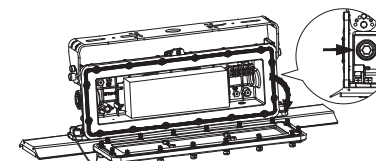

Figure 0-2
4. Open the cover, there is a hanging rope at the lower left corner to prevent falling off (Figure 0-2);
5. Unscrew the 3/4 "NPT nut, install suitable conduit to the conduit opening, pull the wire through the conduit hole (Figure0-2), and connect it to the 5PIN terminal block; Wire connected to terminal block should be Aluminum or Copper Conductors. Connectors should be secured by Torque: 4.4 in-lbs. See label at the terminal block for wiring(M+: DIM+, M-: DIM-).